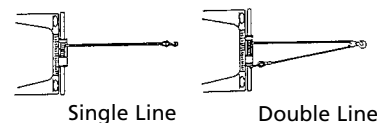

Figure 1
1. The X9 winch is rated at 9,000 pounds (4082 kg) (single line) capacity on the wire rope layer closest to the drum. **DO NOT OVERLOAD. DO NOT ATTEMPT PROLONGED PULLS AT HEAVY LOADS.** Do not maintain power to the winch if the motor stalls. Overloads can damage the winch and/or the wire rope and create unsafe operating conditions. **FOR LOADS OVER 6,000 POUNDS (2721 KG), WE RECOMMEND THE USE OF THE OPTIONAL PULLEY BLOCK TO DOUBLE LINE THE WIRE ROPE** (Figures 1 & 14). This reduces the load on the winch and the strain on the wire rope by approximately 50%. If attaching back to vehicle, attach to the frame or other load bearing part. **The vehicle engine should be running during winch**